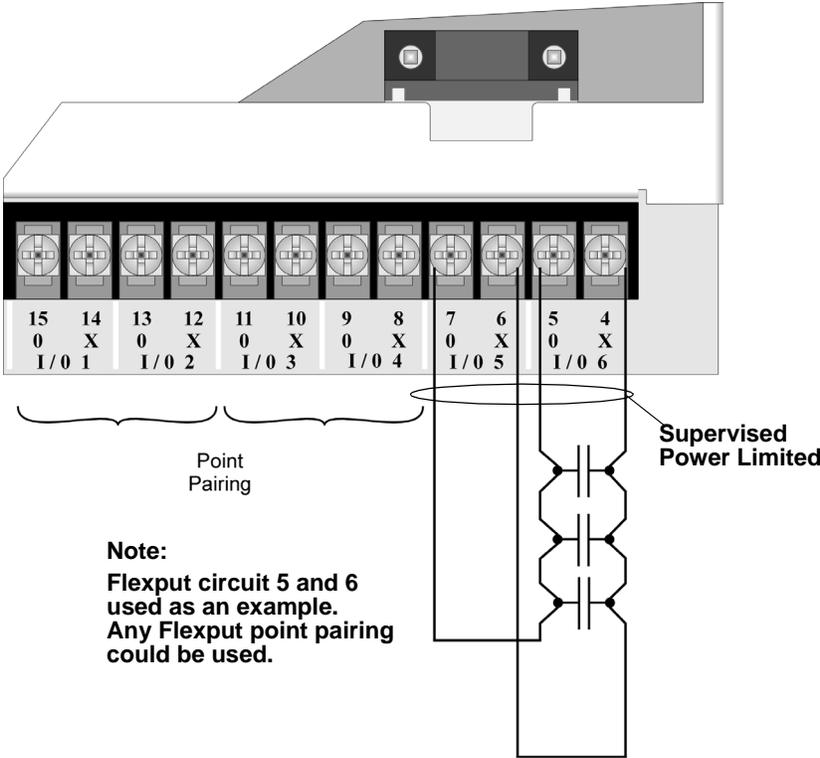

Figure 4-40 Class A initiating Switches
- 1. Wire the Class A switch as shown in Figure 4-40.
Note: In programming any point that uses multiple Flexput circuits, the lowest Flexput circuit number is used to refer to the circuit pair. For example, Figure 4-40 uses both Flexput circuit 5 and 6, so in programming it would be referred to as point 5.